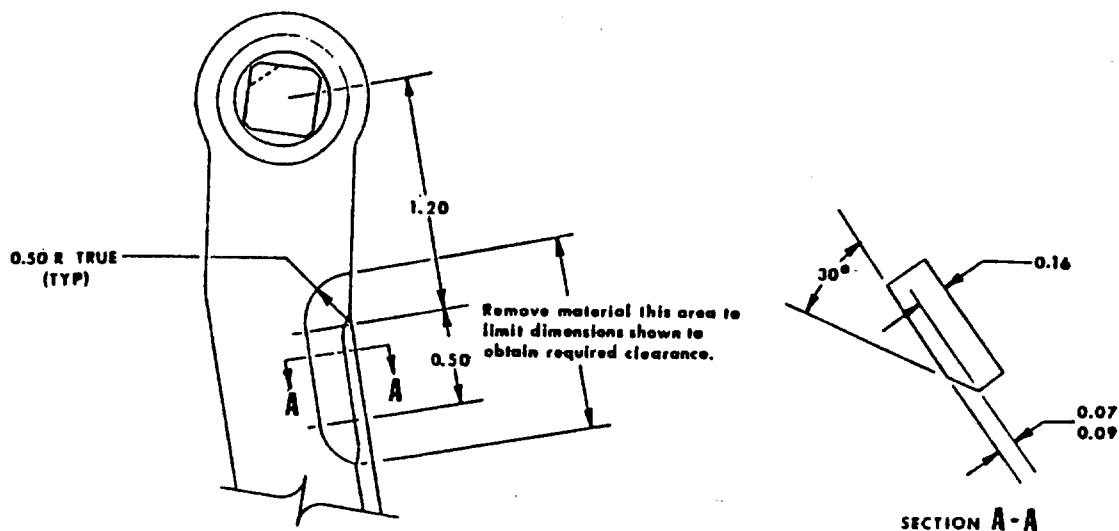

Figure 213 - Inner Lever Arm Material Removal
- (b) Remove the arm and remove material from the arm to obtain the required clearance. Limits to which material may be removed are shown in Figure 213.